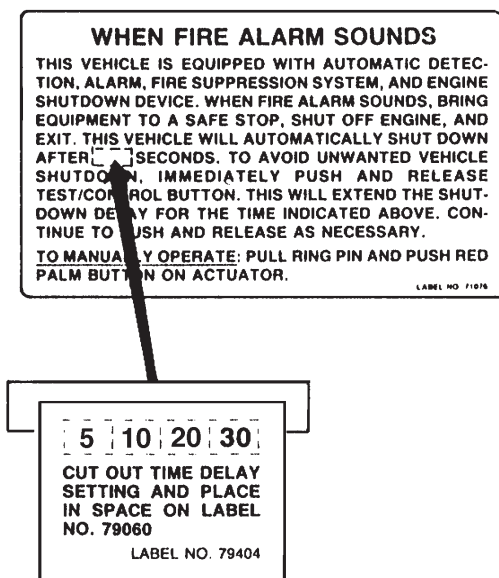

FIGURE 39
8. If a vehicle shutdown device is installed and the shutdown time delay is being used, complete the following steps: See Figure 39.